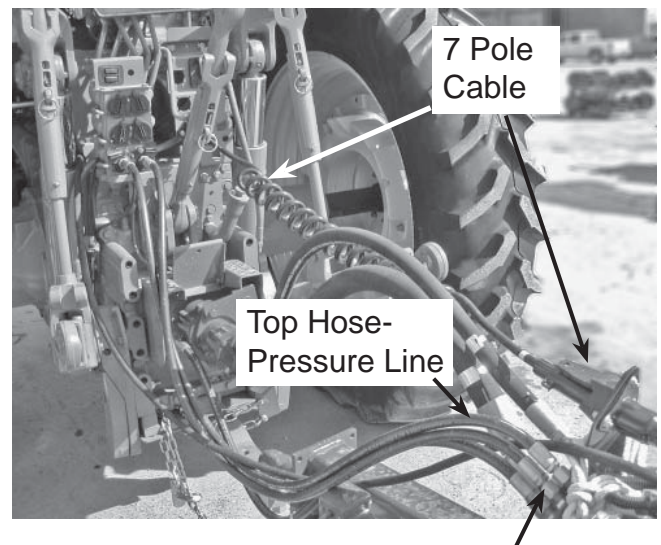

Figure 6 - Hose and 7-Pole Cable Connection
5. Connect the 2 hoses from the baler to tractor. Connect the pressure hose, top hose on the baler to the power cylinder extend port on the tractor (see Figure 6 and 7).
The middle hose is the tank return line on the baler and should not receive more than 25 psi of back pressure from the tractor when connected (see Figure 6 and 7). Connect the tank return line to the return cylinder retract port on tractor.
6. Connect the 7 pole cable (see Figure 6 and 7). Above is the 7 pole power supply and lights connector on the drawbar. Verify that there are 12 volts DC on post "C" (see Figure 8) during tractor operation. If power is not constant at post "C," contact your Freeman dealer.